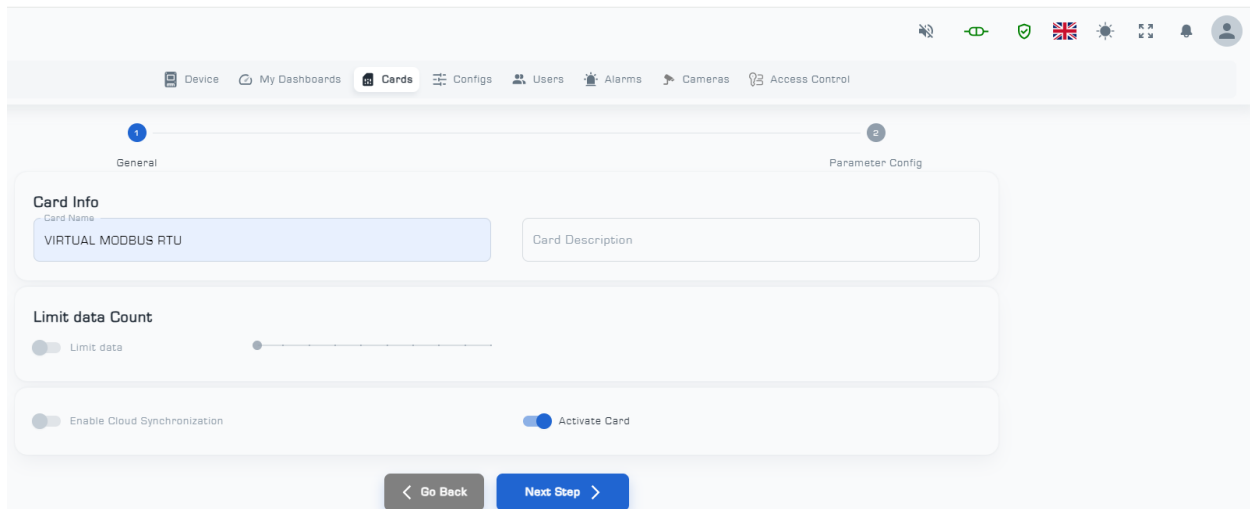

Figure 42: First page of settings on the virtual card
(3) Fill in the 'Card Name' and 'Card Description'1 fields (Figure 42).